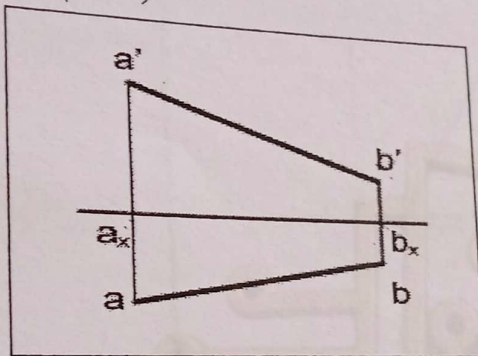

Figure 1
2. Reproduce the given views of the lines and determine the true length. (figure 1) 14